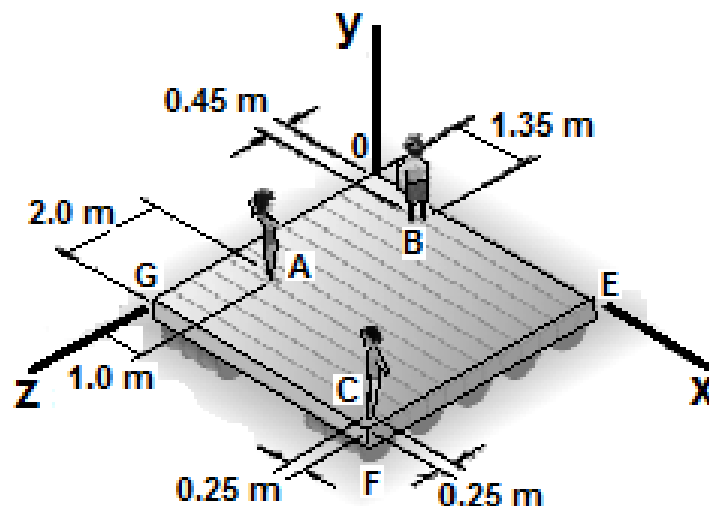

Figure 2[a]
2. [a] Three children are standing on a 5 x 5 m raft as in Figure 2[a]. The weights of the children at points A, B and C are 380 N, 270 N and 400 N respectively. If a fourth child of weight 430 N climbs onto the raft and the line of action of the resultant of the four weights is to pass through the centre of the raft, determine the position of the fourth child where other children remain in position as in Figure 2[a].
- [b] A cable and frictionless pulley system as in Figure 2[b] is used to lift a load of 150 kg.